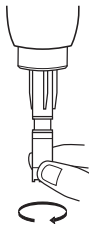
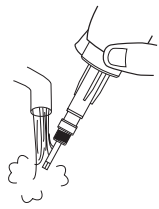

Figure 2
Figure 3
3. Unscrew the membrane cap from the probe (see **Figure 2**), dispose of the electrolyte solution and membrane cap, and then rinse the probe with distilled water for a few seconds to remove any contaminants (see **Figure 3**).